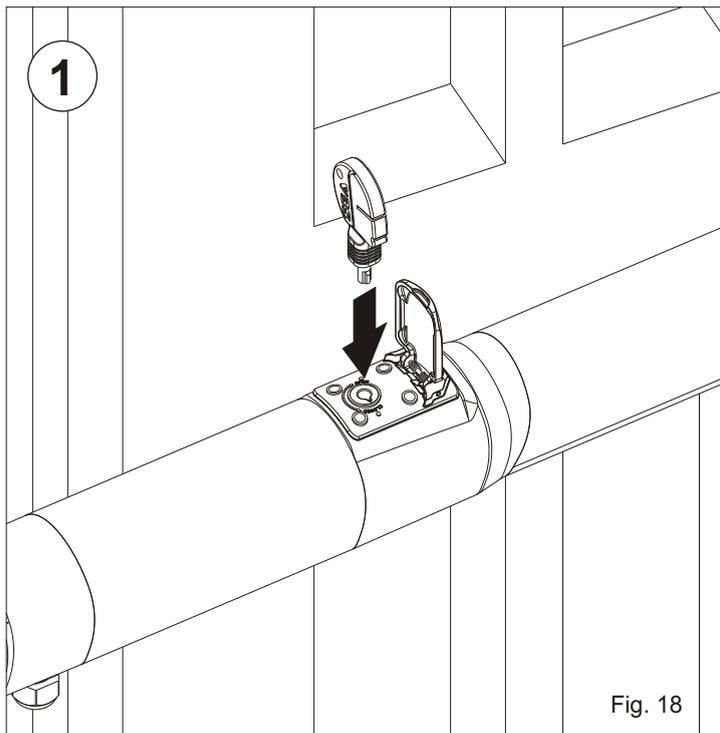

Fig. 18
1. Insert the release key into the fissure as in Fig. 18